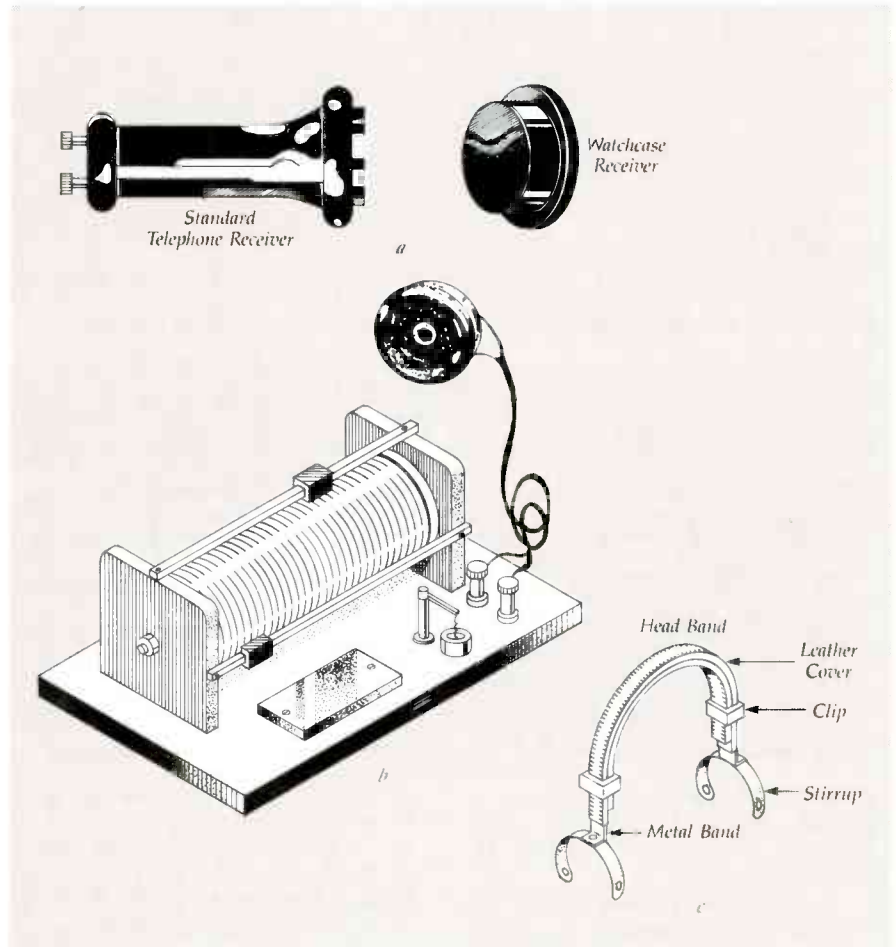

FIG. 8—THE DEVELOPMENT OF HEADPHONES: It started with a conventional telephone receiver, and ended in a headband.
To see how it works, let's use the spring element again as shown in Fig. 8. At some point near the fixed end of the bar, we will bond two of the strain gages to the upper surface, and the other two directly below them on the lower surface. In Fig. 8, R_t refers to the gages on top of the spring element and R_b refers to those on the bottom. When no force is applied to the bar, the top and bottom surfaces will be the same length. Since all four of the strain gages have the same initial resistance, the bridge will be balanced and the potential difference across the bridge will be zero. If we now apply a force to the end of the bar, the upper strain gages will increase in length and the lower gages will decrease. That is shown in Fig. 8 as $R+r$
FIG. 8—WHEN FORCE IS APPLIED to the end of the spring arm, the resistance of the strain gages on its upper and lower surfaces change by equal but opposite amounts.
As shown in Fig. 8, headphones evolved from the telephone industry; in fact, the first earphone was the "roaring twenties" standard telephone receiver, and its spin-off watchcase receiver (Fig. 8-a)—which was specifically designed for use with a radio. Although both types worked with radio receivers, they had two problems: (A) they were fatiguing because they had to be supported by hand, as shown by the complete radio in Fig. 8-b; (B) they had a very low impedance of approximately 75 ohms. Eventually, their
impedance was increased to about 100 ohms, and finally to about 1000-3000 ohms. Fatigue was mitigated when the headband shown in Fig. 8-c was invented. It allowed the user to literally "wear" the receiver. When one or two receivers were mounted in a headband the entire assembly was called a "headphone," "headphones," or "headset."